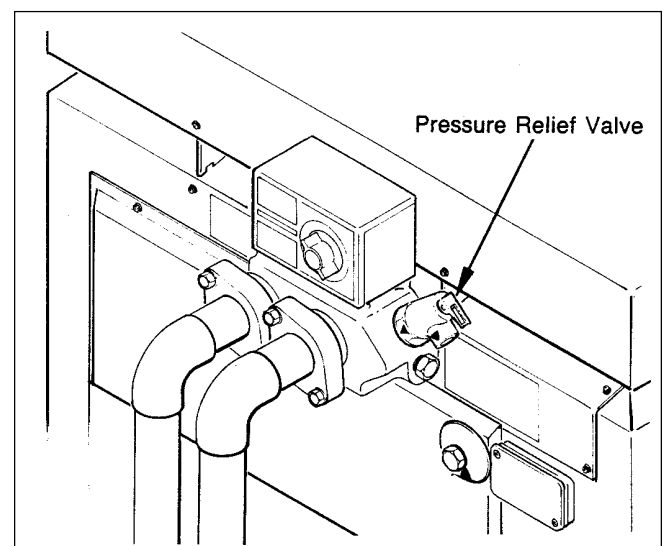

Figure 13. Pressure Relief Valve.
1. Remove the 3/4 inch plug from the side of the inlet/outlet header (see Fig. 13).